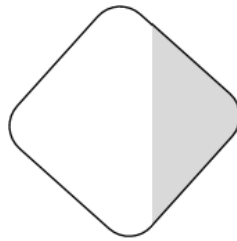

Fig. 3.1
- (a) (i)** Draw a large plan diagram of the region of the stem on **K1** indicated by the shaded region in Fig. 3.1. Your plan drawing should include at least 1 large vascular bundle and 2 smaller vascular bundles.